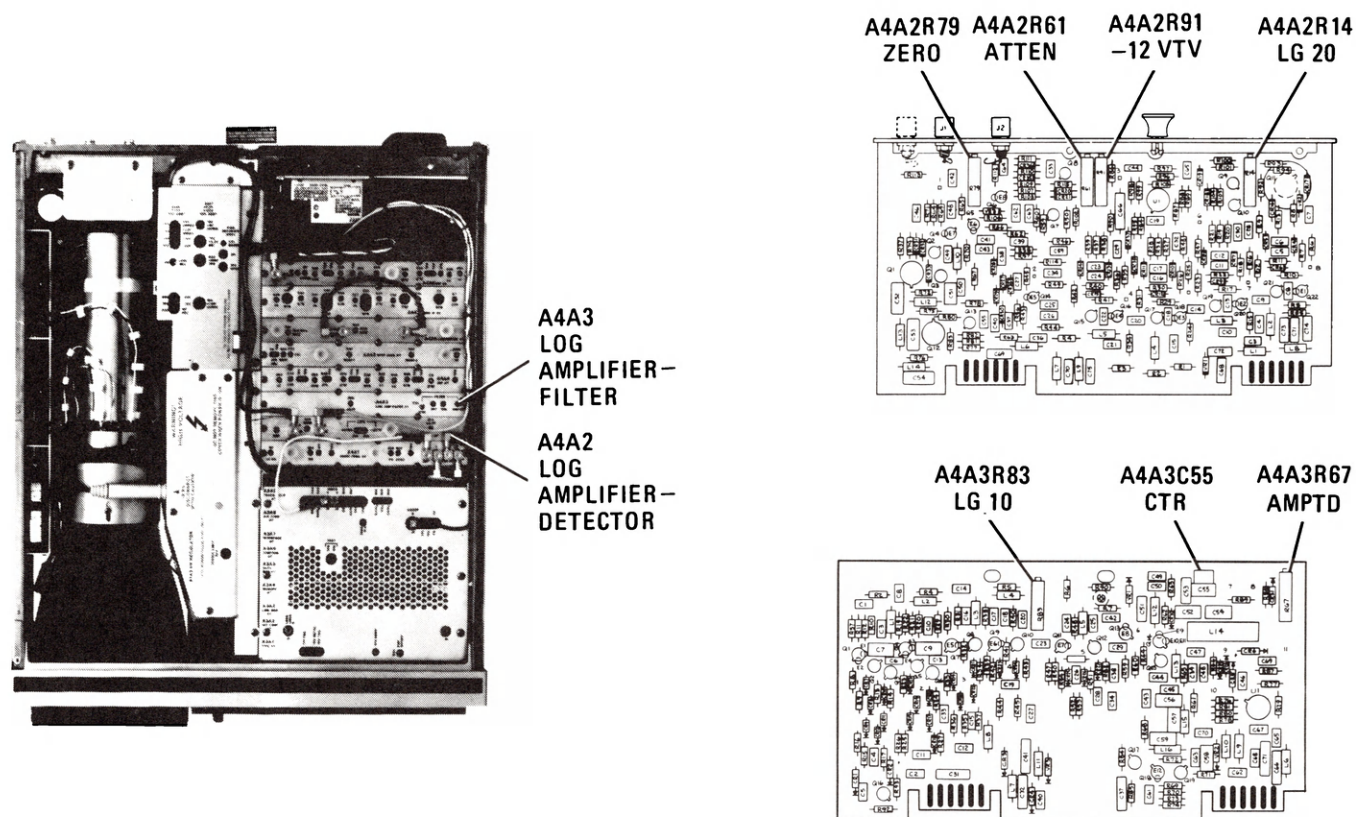

Figure 5-20. Location of Log Amplifier Adjustments
5. Adjust A4A2R79 ZERO for 0.0000 ± 0.0005 Vdc. Refer to Figure 5-20 for location of adjustment.
8. Adjust A4A3C55 CTR for maximum DVM indication. Refer to Figure 5-20 for location of adjustment. If unable to achieve a "peak" indication, increase or decrease value of A4A3C52 and A4A3C53. Refer to Table 5-3 for range of values.
11. Adjust A4A3R67 AMPTD for DVM indication the same as that noted in Step 9 ± 0.0005 Vdc. Refer to Figure 5-20 for location of adjustment. If unable to adjust AMPTD for proper indication, increase or decrease value of A4A3R66. Refer to Figure 5-20 for location of adjustment. If unable to adjust AMPTD for proper indication, increase or decrease value of A4A3R66. Refer to Table 5-3 for range of values.
18. Adjust A4A2R91 –12 VTV for DVM indication of $+300 \pm 1$ mVdc. Refer to Figure 5-20 for location of adjustment.
20. Adjust A4A2R61 ATTEN for DVM indication of $+1.000 \pm 0.001$ Vdc. Refer to Figure 5-20 for location of adjustment. If unable to adjust ATTEN for proper indication, increase or decrease value of A4A2R62. Refer to Table 5-3 for range of values.
25. Adjust A4A3R83 LG10 for DVM indication of $+1.000 \pm 0.010$ Vdc. Refer to Figure 5-20 for location of adjustment. If unable to adjust LG10 for proper indication, increase or decrease value of A4A3R54. Refer to Table 5-3 for range of values.
28. Adjust A4A2R14 LG20 for DVM indication of $+1.000 \pm 0.010$ Vdc. Refer to Figure 5-20 for location of adjustment. If unable to adjust LG20 for proper indication, increase or decrease value of A4A2R18. Refer to Table 5-3 for range of values.